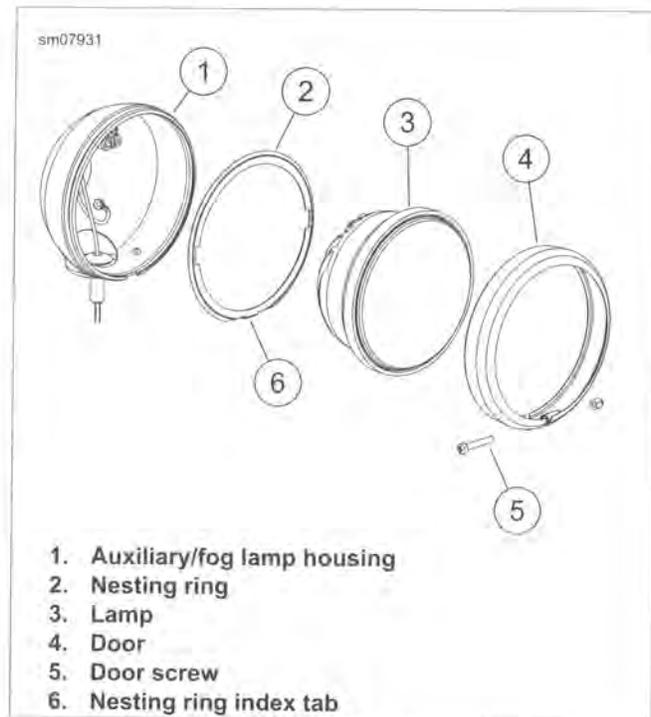

Figure 7-14. Auxiliary/Fog Lamp
1. See Figure 7-14. Loosen screw (5). Pull door (4) from lip of lamp housing.
2. Disconnect auxiliary/fog lamp connector. Remove lamp (3).
3. Remove nesting ring (2).
2. See Figure 7-14. Place nesting ring (2) on back of lamp (3) with tab facing away from lamp.
4. Engage nesting ring index tab (6) in slot at bottom of lamp housing.
6. Install lamp door (4) on lamp housing with screw centered at bottom. Tighten door screw (5) to 6-10 in-lbs (0.7-1.1 Nm).